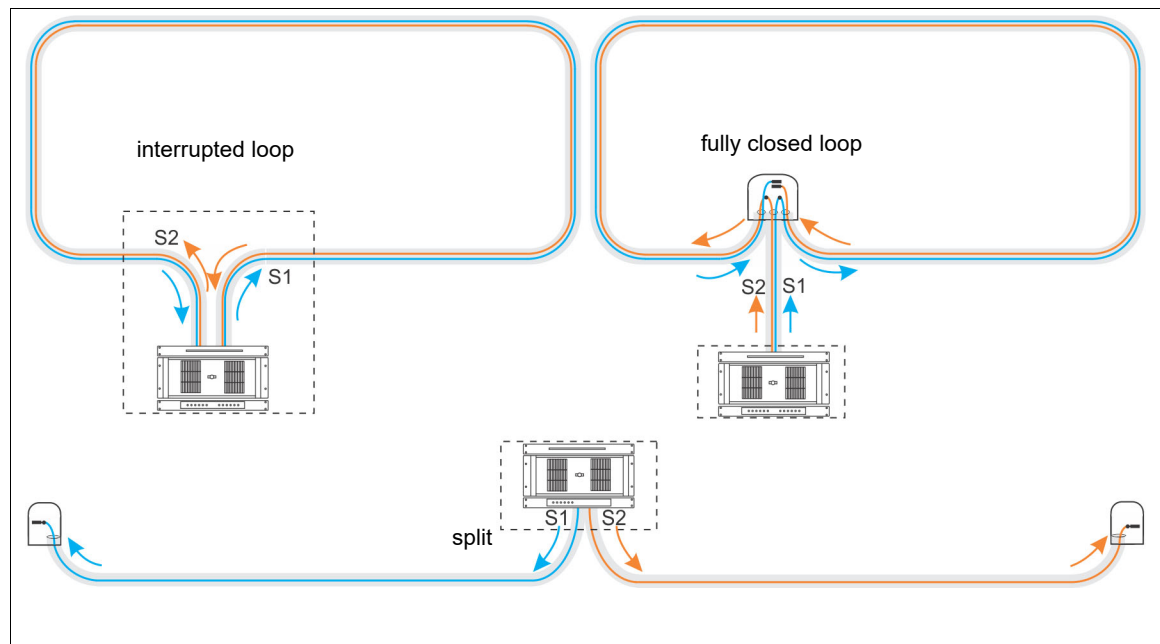

Figure 83 FiberPatrol sensor cable configurations
Figure 83 illustrates the most common FiberPatrol sensor cable configurations. Refer to FiberPatrol configurations on page 19 for additional sensor cable configurations and installation details.
- For Loop configurations, Sensor 1 and Sensor 2 run in opposite directions around the perimeter, and back to the start point (see Figure 83). There are two types of Loop configurations: